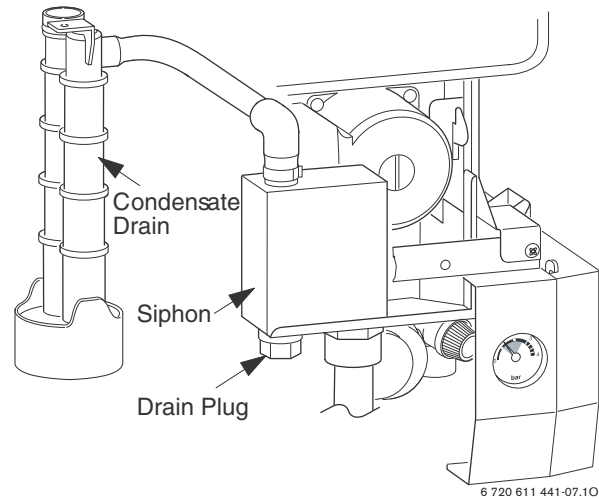

Fig. 59
- ▶ Unscrew and remove the siphon by releasing the jubilee clip. Refer to fig. 59.